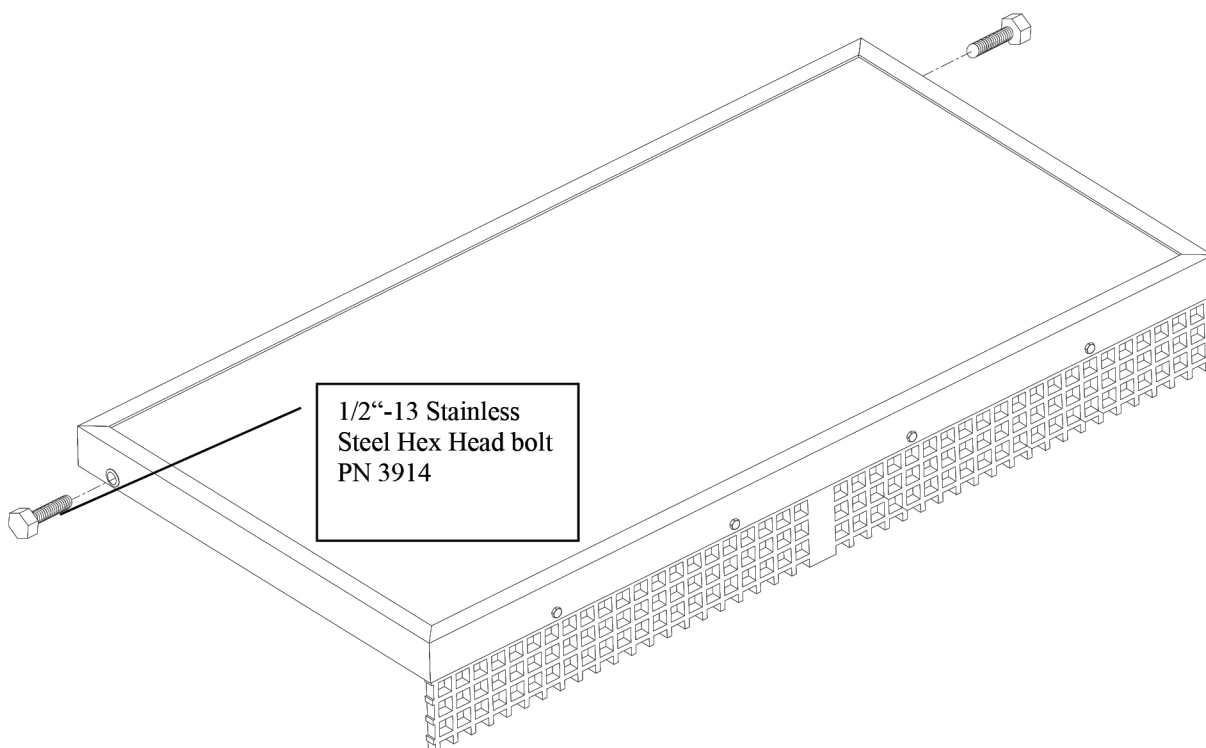

Figure 6.
7. Insert (2) 1/2"-13 x 1 3/4" bolts supplied into the threaded plugs as shown in Figure 6.